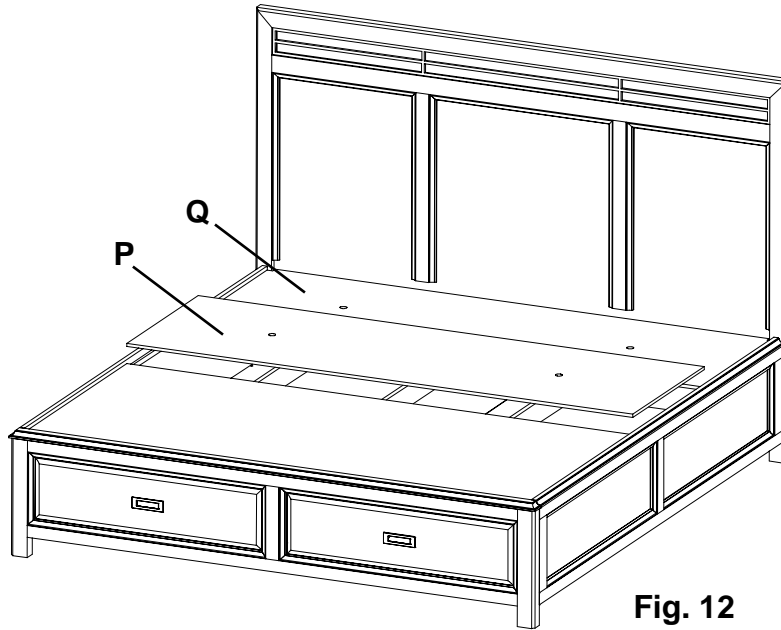

Fig. 12
- Place the Top Notched Deckboard (Q) with the notches facing the Headboard. Place the Top Deckboard (P) as shown in Figure 12. There are holes in these two deckboards for easy access to the open storage area below.